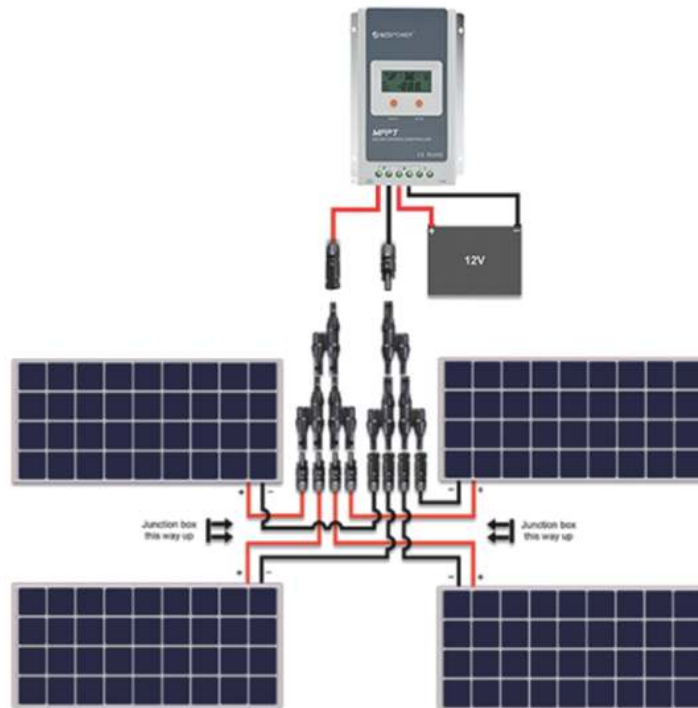

Figure 8 Four 100W Panels in parallel
Fig. 8 shows the arrangement for connecting four solar panels in parallel. This arrangement is applicable if the solar panels are to be mounted in a 2x2 configuration as shown above. Please note that the positioning of the junction boxes must be followed for the cables to reach the MC4 Branch Connectors. This connection requires three (3) pairs of MC4 Y-Branch Connectors. When one or multiple panels are mounted at different locations- that is, separated by a distance, the panels must be extended with MC4 Extension Cables (sold separately).